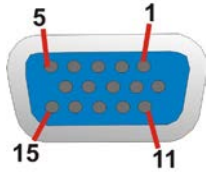

Figure 3-34: VGA Connector
- CN Pinouts:** See **Figure 3-34** an **Table 3-33**